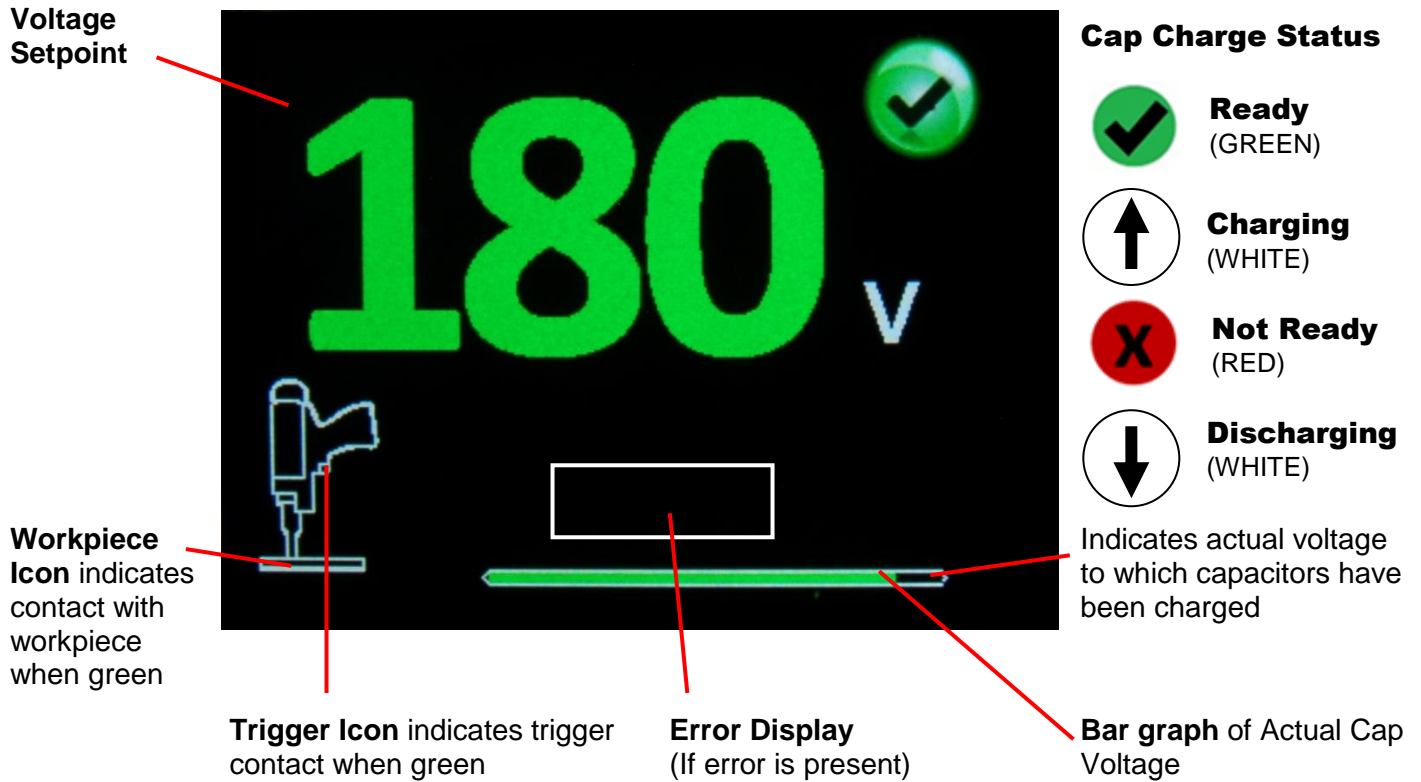

Figure 2.2 Voltage Display (Enlarged View of Items 5 & 6 of Figure 2.1)
Wait for a few seconds while the power supply initiates and completes both a self test and self diagnostics test (**Note: Self tests occur between every weld.**). Once the tests have completed, the power supply will charge the unit to the voltage setpoint (adjust voltage if necessary). When fully charged, the Cap Charge Status icon (Figure 2.2, Page 14) will become a green checkmark to show that the unit is fully charged and ready to weld.
6. Pull the trigger to weld the stud. The Trigger icon will turn green when the trigger switch is depressed (Figure 2.2, Page 14).
8. The unit automatically recharges - wait for the Cap Charge Status icon (Figure 2.2, Page 14) to turn green again before proceeding with the next weld. The unit will not recharge even if the trigger is pulled again before the chuck is removed from the welded stud known as the **Chuck Saver™**.